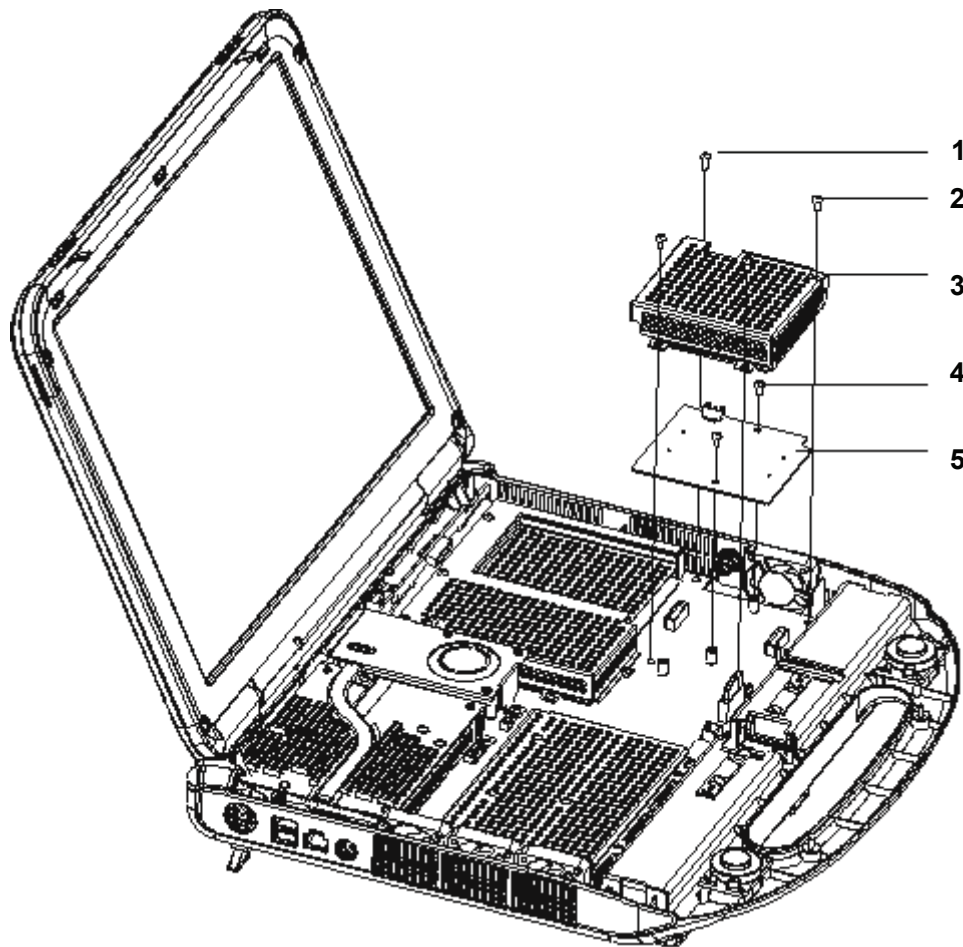

Figure 4-21 Removing CW Board
- 1) As shown in Figure 4-21, remove four Philips panhead screws 1, and remove the CW board shield cover.